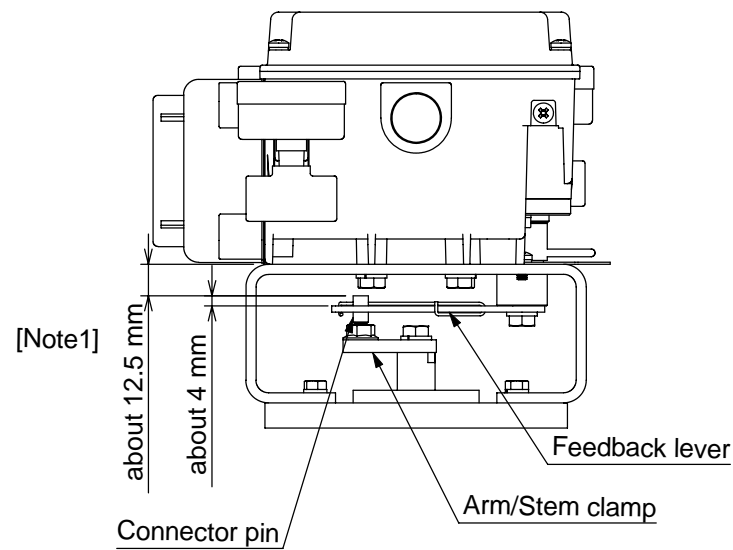

Fig.1 Side view of SVX
1. Please check after attachment that a feedback lever and a connector pin are properly connected as shown in Fig.1.